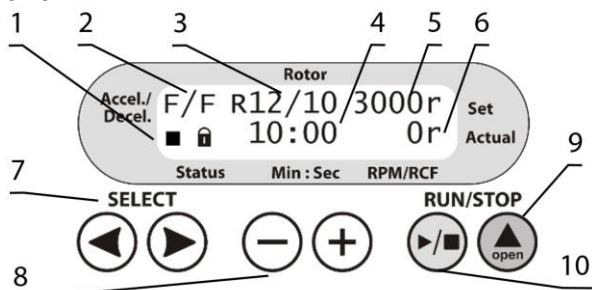

Figure 2. LMC-56 control panel
- Check the power cable for any signs of damage. Connect the power cable to a properly grounded mains socket. Set the power switch on the unit to position **I** (on). Press the **▲ Open** key (fig. 2/9) and lift the lid by hand.
- Acceleration and deceleration modes (fig. 2/2);
- Set rotor speed in RPM or RCF¹ (fig. 2/6);
- Status icons of rotor, ■ stopped or ► running (fig. 2/1, first symbol);
- Status icons of lid, ■ closed or ► open (fig. 2/1, second symbol);
- Set time of centrifugation, in minutes and seconds (fig. 2/4);
- Actual rotor speed, in RPM or RCF (fig. 2/6);
- 5.4 Press the **▲ Open** key (fig. 2/9) and lift the lid by hand. Check the rotor, buckets for any signs of wear or corrosion, and replace if necessary. Insert **EVEN** number of tubes/microtest plates in rotor one opposite another. The loading in the opposite tubes must be equal.
5.5 **Setting parameters.** Use the **SELECT** ◀ and ▶ keys (fig. 2/7) to choose a parameter and the – and + keys (fig. 2/8) to modify it. Selected parameter will be blinking. Program automatically saves any changes made after no keys are pressed for 2 seconds.
5.5.1 Acceleration modes (fig. 2/2, first letter). Three modes of acceleration are available, slow (shortened to **S**), normal (**N**) and fast (**F**).
5.5.2 Deceleration modes (fig. 2/2, second letter). Four modes of deceleration are available, free brake (**0**), slow (**S**), normal (**N**) and fast (**F**).
5.5.3 Installed rotor (fig. 2/3). Combinations of rotors, adapters and their maximum allowed speed is listed below in the table below:
5.5.4 Rotation parameters (fig. 2/5). Rotor speed can be set in RPM and in RCF, denoted after numeric value by **r** and **g**, accordingly. Values convert after changing units. RCF depends on the installed rotor, as shown in Table 1.
5.5.5 Time setting (fig. 2/4). Select duration of centrifugation in minutes, step 1 minute.
5.6 Close the lid carefully and smoothly until a clicking sound is heard. Icon ■ appears on the display (fig. 2/1).
5.7 Press the **RUN/STOP** ▶/■ key (fig. 2/10) to start centrifugation. Icon ▶ (fig. 2/1) and actual speed (fig. 2/6) are shown in the lower line of the display. The timer (fig. 2/4) starts the countdown after set speed is achieved.